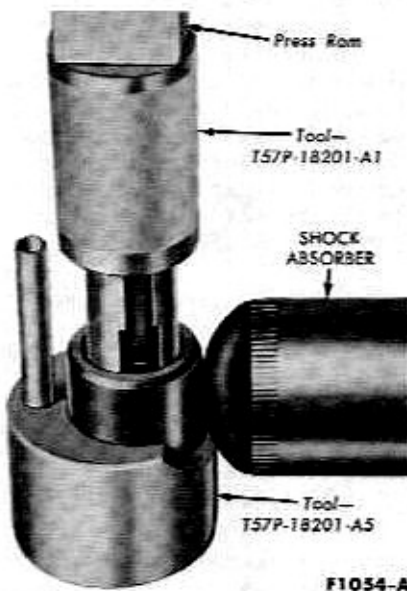

FIG. 16—Shock Absorber Bushing Removal
3. Remove the bushing and washers from the shock absorber stud. Remove the bushing from the lower end of the shock absorber (Fig. 16) if the shock absorber is serviceable and the bushing requires replacement.